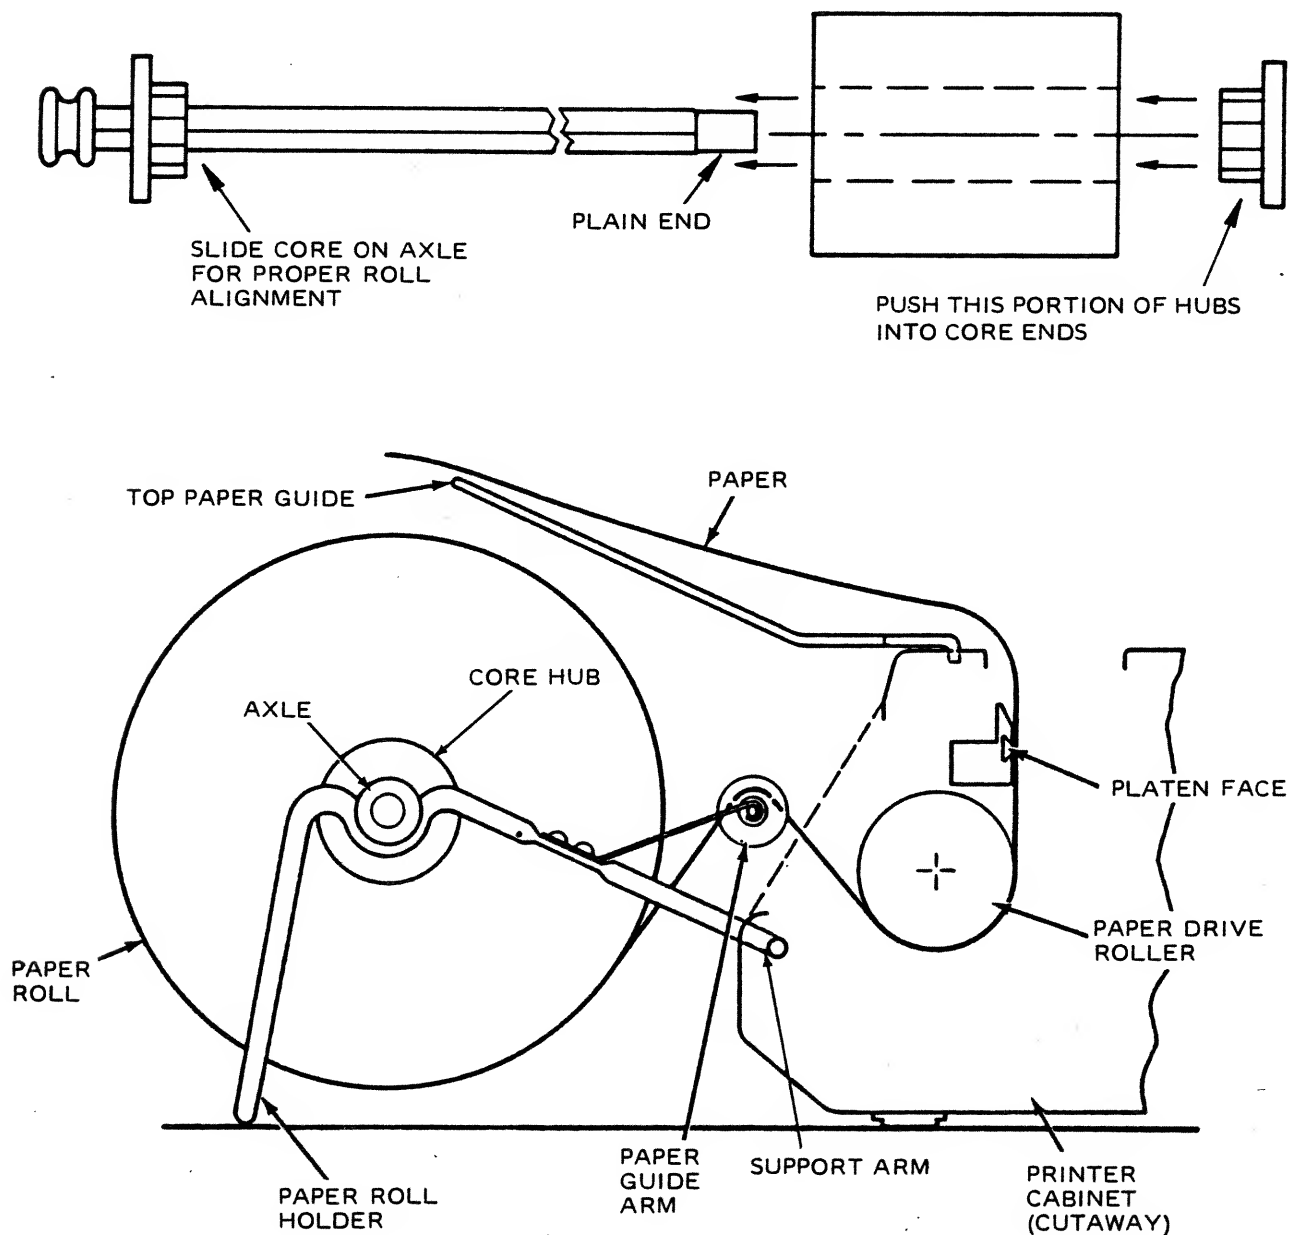

Figure 2. ROLL PAPER HOLDER INSTALLATION
2. Refer to Figure 2 and squeeze the support arms together slightly.